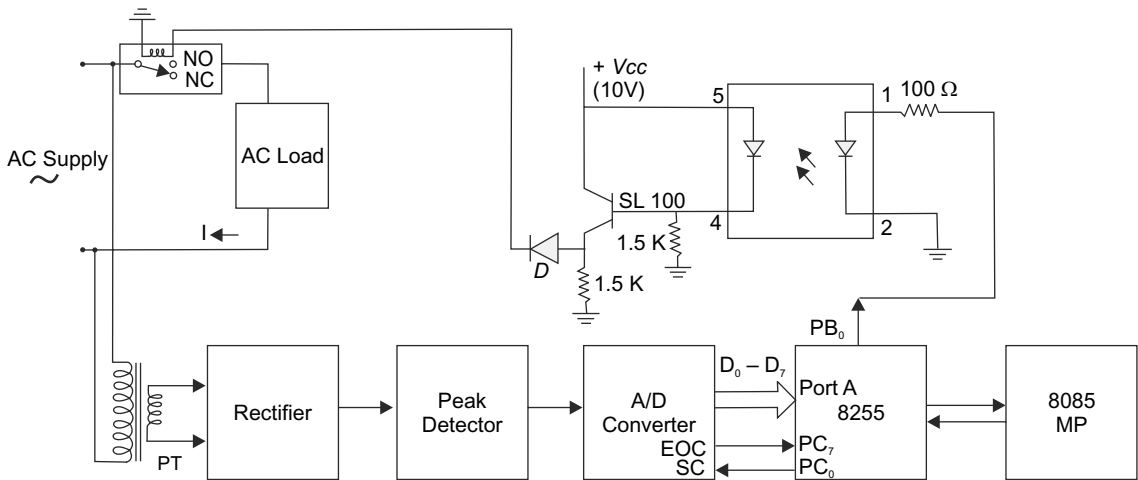

Fig. 10.60 Schematic block diagram of overvoltage protection
The schematic block diagram of the system overvoltage protection is shown in Fig. 10.60. It is depicted in Fig. 10.60 that a single-phase ac supply is connected to a load (electrical appliance) through an electromagnetic relay. This electrical appliance must be protected from overvoltage as well as undervoltage. For this, a Potential Transformer (PT) has been used to collect the voltage signal. The output of PT is fed to the input of a peak detector circuit to detect the peak value of the voltage. The output of a peak detector circuit is applied to the A/D converter for analog-to-digital conversion. For protection against over and undervoltage, an opto-coupler circuit, MCT2E is used to connect to the pin PB_0 of the I/O port. A 5 V dc supply has been connected to the opto-coupler circuit and the output has been connected to the energizing coil of an electromagnetic relay through a diode IN 4007.